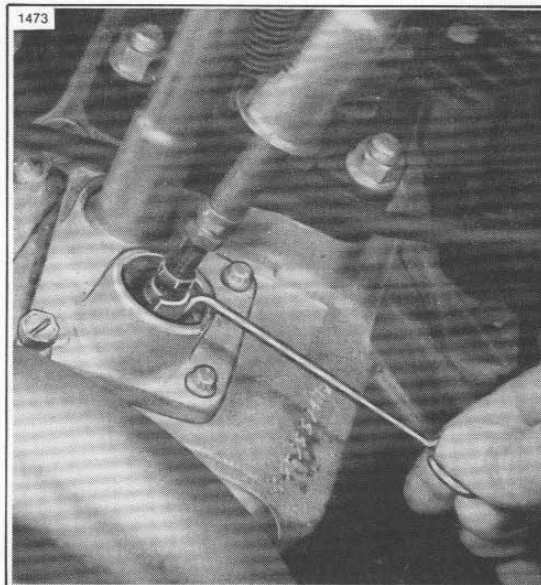

Figure 3-7B. Checking Push Rod Adjustment
2. See Figure 3-7B. Place the gauge on the lifter as shown. The top of the lifter should be even with the top of the gauge.